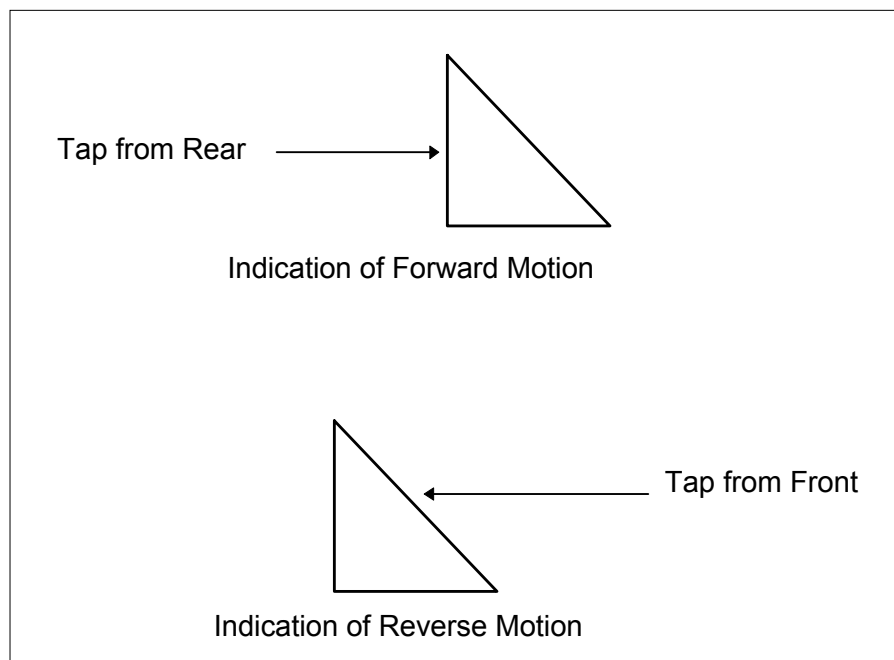

Figure 2-3 - Indication of Forward and Reverse Motion
5. After the unit has returned to the “stopped” condition, tap the front of the unit as shown in Figure 2-3. The LED status should indicate the “reverse” condition in Table 2.3. That is, only LED3 should be lit. The DMM reading should be between 0.0 and 0.1Vdc.